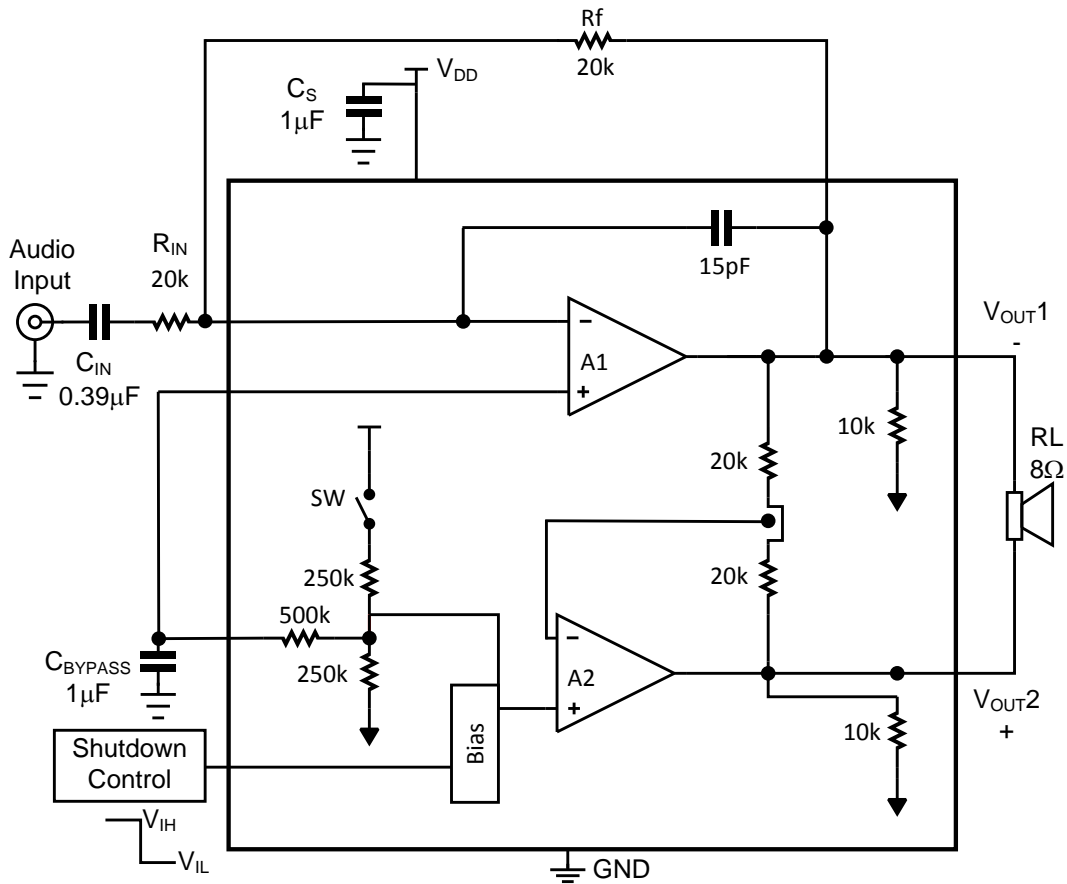

Figure 7. Typical Audio Amplifier Application Circuit
The following specifications apply for the circuit shown in Figure 7 unless otherwise specified. Limits apply for $T_A = 25^\circ C$.
- (1) All voltages are measured with respect to the ground pin, unless otherwise specified.
- (2) *Absolute Maximum Ratings* indicate limits beyond which damage to the device may occur. *Operating Ratings* indicate conditions for which the device is functional, but do not ensure specific performance limits. *Electrical Characteristics* state DC and AC electrical specifications under particular test conditions which ensure specific performance limits. This assumes that the device is within the Operating Ratings. Specifications are not ensured for parameters where no limit is given, however, the typical value is a good indication of device performance.
- (3) For DSBGA only, shutdown current is measured in a Normal Room Environment. Exposure to direct sunlight will increase I_{SD} by a maximum of 2 μA .
- (4) Typical values are measured at 25 $^\circ C$ and represent the parametric norm.
- (5) Limits are specified to TI's AOQL (Average Outgoing Quality Level).
- (6) Datasheet min/max specification limits are specified by design, test, or statistical analysis.
- (7) ROUT is measured from each of the output pins to ground. This value represents the parallel combination of the 10k ohm output resistors and the two 20k ohm resistors.
- (8) PSRR is a function of system gain. Specifications apply to the circuit in Figure 7 where $A_V = 2$. Higher system gains will reduce PSRR value by the amount of gain increase. A system gain of 10 represents a gain increase of 14dB. PSRR will be reduced by 14dB and applies to all operating voltages.
The following specifications apply for the circuit shown in Figure 7 unless otherwise specified. Limits apply for $T_A = 25^\circ\text{C}$.
(7) R_{OUT} is measured from each of the output pins to ground. This value represents the parallel combination of the 10k ohm output resistors and the two 20k ohm resistors.
(8) PSRR is a function of system gain. Specifications apply to the circuit in Figure 7 where $A_V = 2$. Higher system gains will reduce PSRR value by the amount of gain increase. A system gain of 10 represents a gain increase of 14dB. PSRR will be reduced by 14dB and applies to all operating voltages.
The following specifications apply for for the circuit shown in Figure 7 unless otherwise specified. Limits apply for $T_A = 25^\circ\text{C}$.